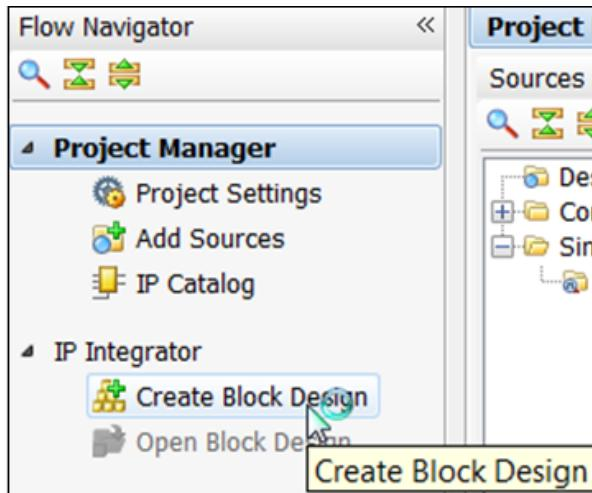

Figure 79: Create Block Design
1. From **Flow Navigator > IP integrator**, select **Create Block Design** (Figure 79).